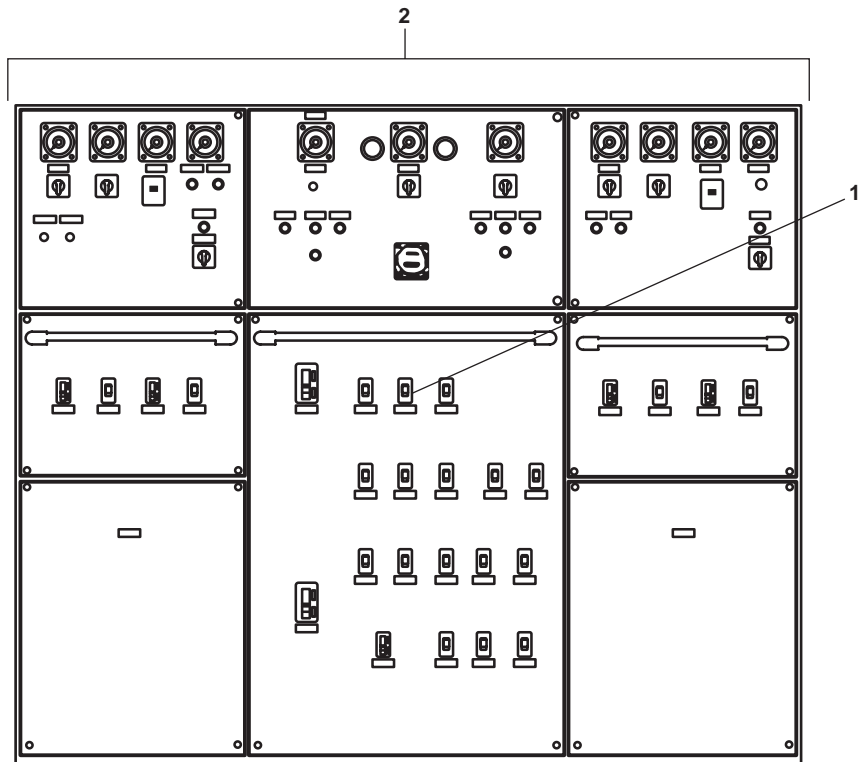

Figure 3. Main Switchboard
3. Set to ON the CENT HYD SYS POWER UNIT NO. 1 & 2 circuit breaker (figure 3, item 1) on the main switchboard (figure 3, item 2).
6. Set to OFF the CENT HYD SYS POWER UNIT NO. 1 & 2 circuit breaker (figure 3, item 1) on the main switchboard (figure 3, item 2).